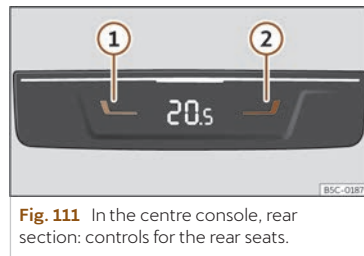

Fig. 111 In the centre console, rear section: controls for the rear seats.
- Press buttons **1** and **2** >>> **Fig. 111** to adjust the temperature of the rear zone.